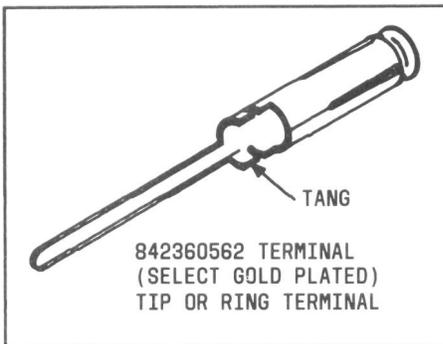

Fig. 6—Tip or Ring Terminal
5.05 To remove a tip or ring terminal (Fig. 6), first remove the wire wrap and cut and dispose of the bare wire. Use the skinning tool to remove the insulation (1-5/8 inches for 22- and 24-gauge wires and 1-7/8 inches for 26-gauge wire). The wire is now prepared for connection to a new terminal.